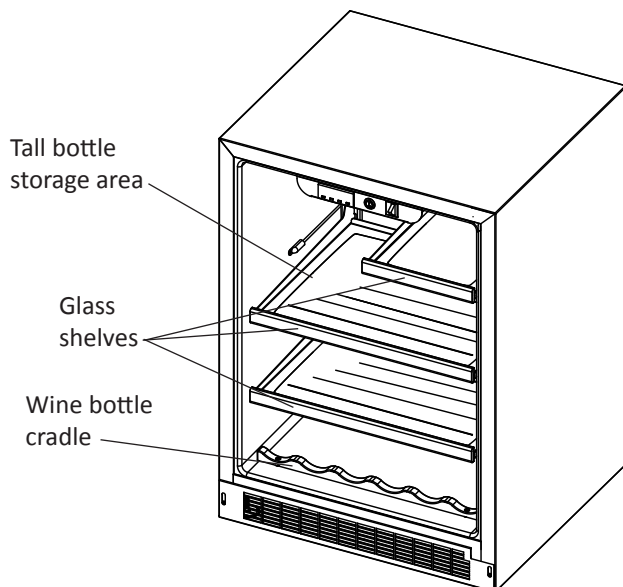

Figure 14
The basic cabinet (6GARM) comes with 3 glass shelves which can be positioned anywhere in the cabinet. The glass half shelf allows storage of tall bottles or opened wine bottles on the shelf below. (See Figure 14). The Professional Series (MPRO6GARM) has 2 full width slide out shelves. The fixed wooden bottle cradle at the bottom of the cabinet will hold 6 bottles of wine. The wooden, bottom bottle cradle may be removed for storing “jug” wines. Just remove the two (2) screws that secure the cradle to the cabinet floor.